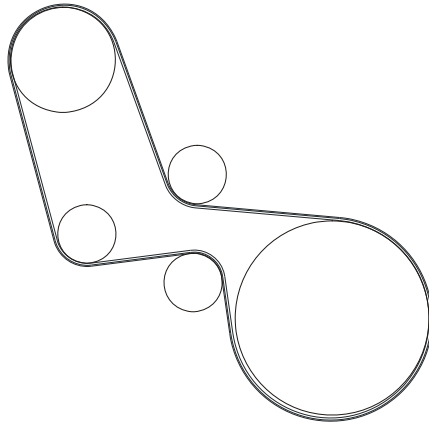

Figure 4.8
- Install the VR compressor belt (Figure 4.8).